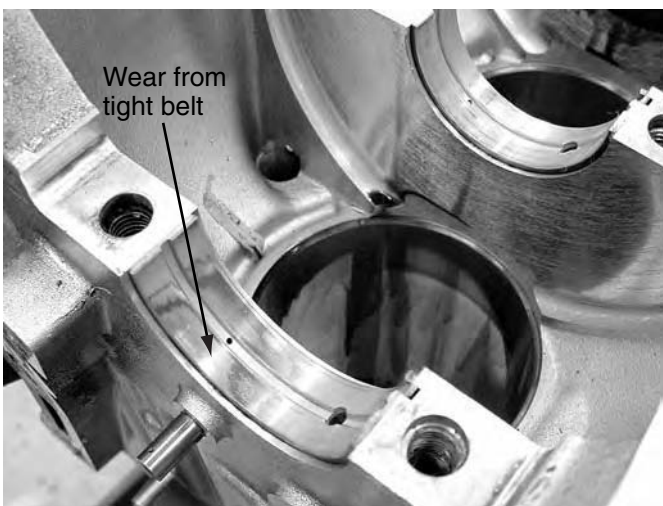

FIGURE 15.27 This front upper main bearing shows wear caused by a V-belt that was too tight. (Courtesy of Tim Gilles)
- Too much belt tension can cause failure of the coolant pump bearing, the alternator, or the front main bearing (**Figure 15.27**).